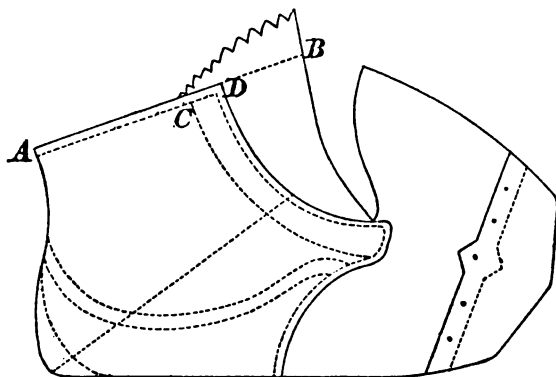

Fig. 58.
**Bellows' Tongue.**—In Fig. 58, the tongue is shown doubled outside the throat of the boot at B, so that one
It is evident before the foot can go into a boot, the front of which is entirely closed, that the opening or throat of the boot must be at least equal to the heel measure, as shown by dotted line, across top of leg and tongue, for, as the heel is the broadest part of the foot it must be as broad as this before the foot can get in, consequently the two sides of the top of the leg and the tongue projecting, as in A B (Fig. 58) must be equal to the heel measure at least. The bare length will be equal to the opening of the leg, or lace part of the leg, or from the top of the vamp to the top of the leg. In this calculation, the part of the vamp which laps over the tongue must not be reckoned.